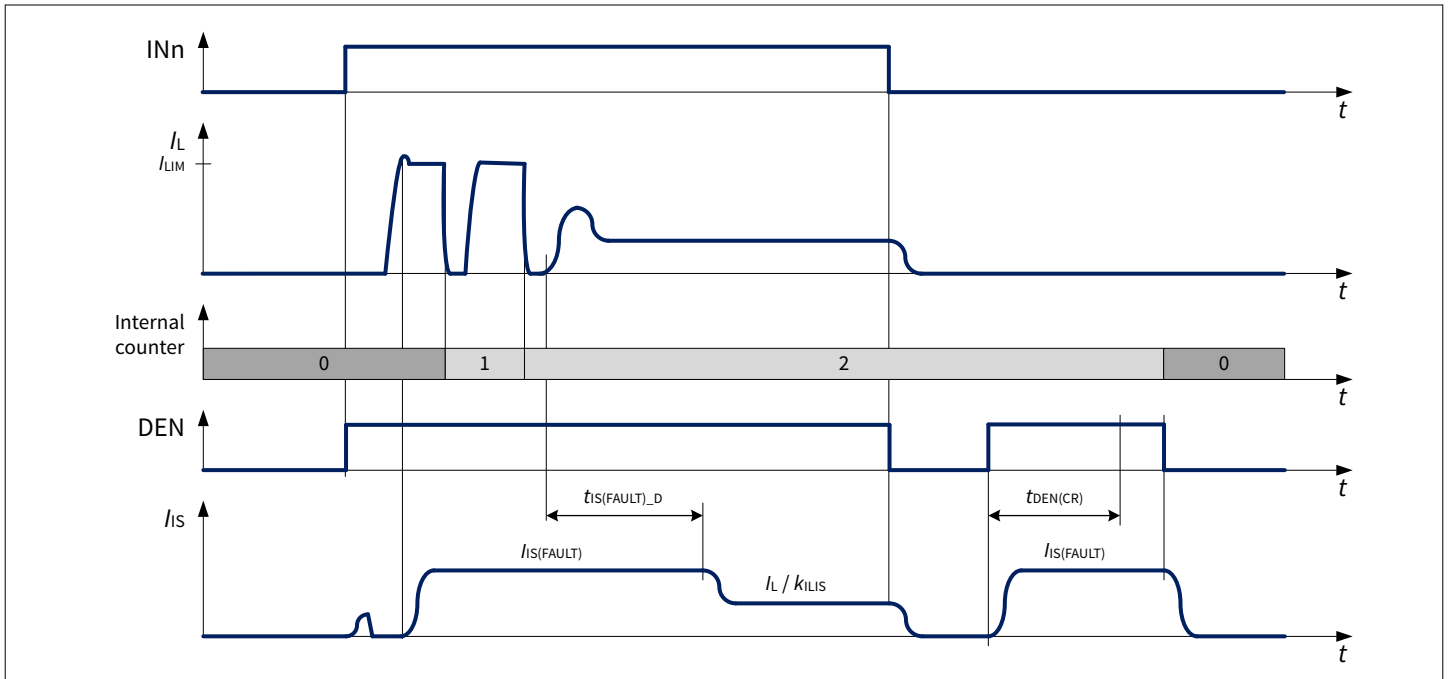

Figure 30 $I_{\text{IS}(\text{FAULT})}$ at load switching
- If the channel is ON and the number of restarts is less than " $n_{\text{RESTART}(\text{CR}),\text{TYP}}$ ", the current $I_{\text{IS}(\text{FAULT})}$ is provided for a time $t_{\text{IS}(\text{FAULT})_D}$ after the channel is allowed to restart, and thereafter $I_{\text{IS}} = I_{\text{L}}/k_{\text{ILIS}}$ (as shown in Figure 30). During a restart cycle the current $I_{\text{IS}(\text{FAULT})}$ is provided each time the channel diagnosis is checked.